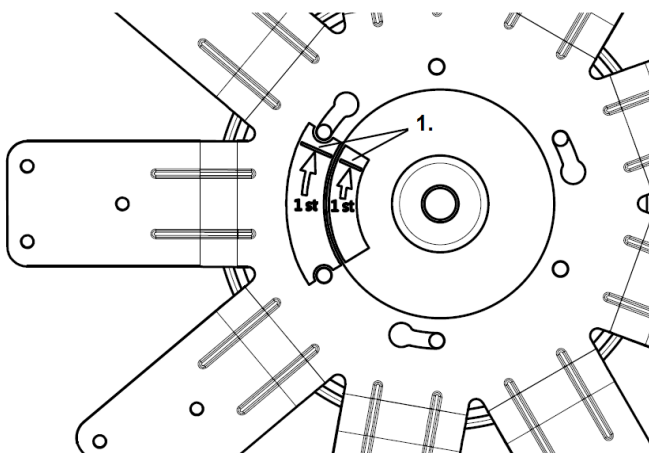
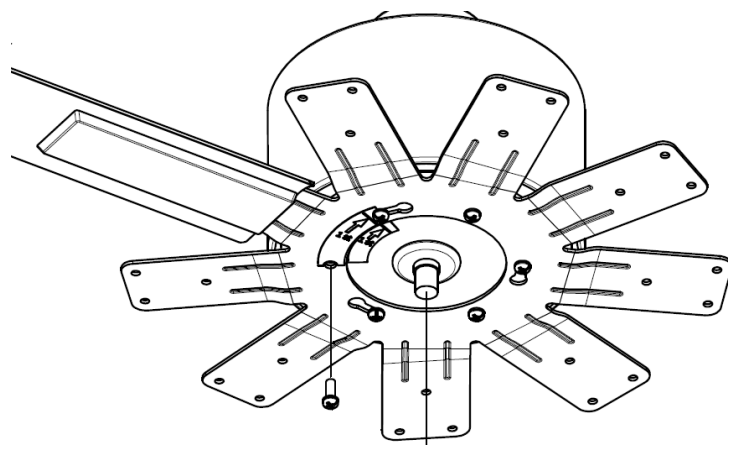

Fig. 8
Fig. 9
- Attach the blade holder to the motor by lining up the position label (1) Fig. 8 and secure it by tightening 6 screws Fig. 9